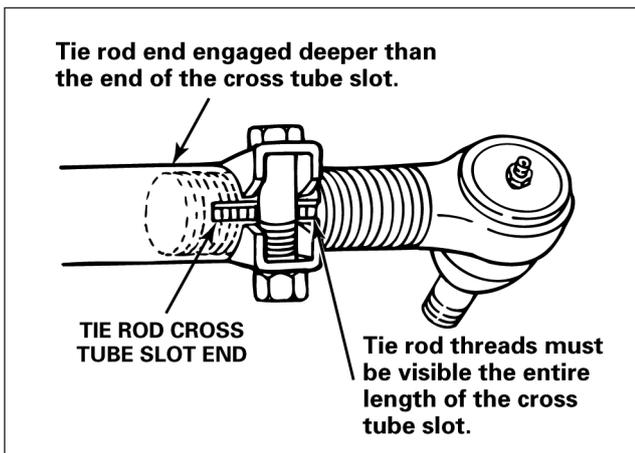

Fig. 1.9
6. Check that the tie rod end is threaded correctly into the cross tube and installed deeper than the end of the cross tube slot. The tie rod end must be visible the entire length of the cross tube slot. Fig. 1.9